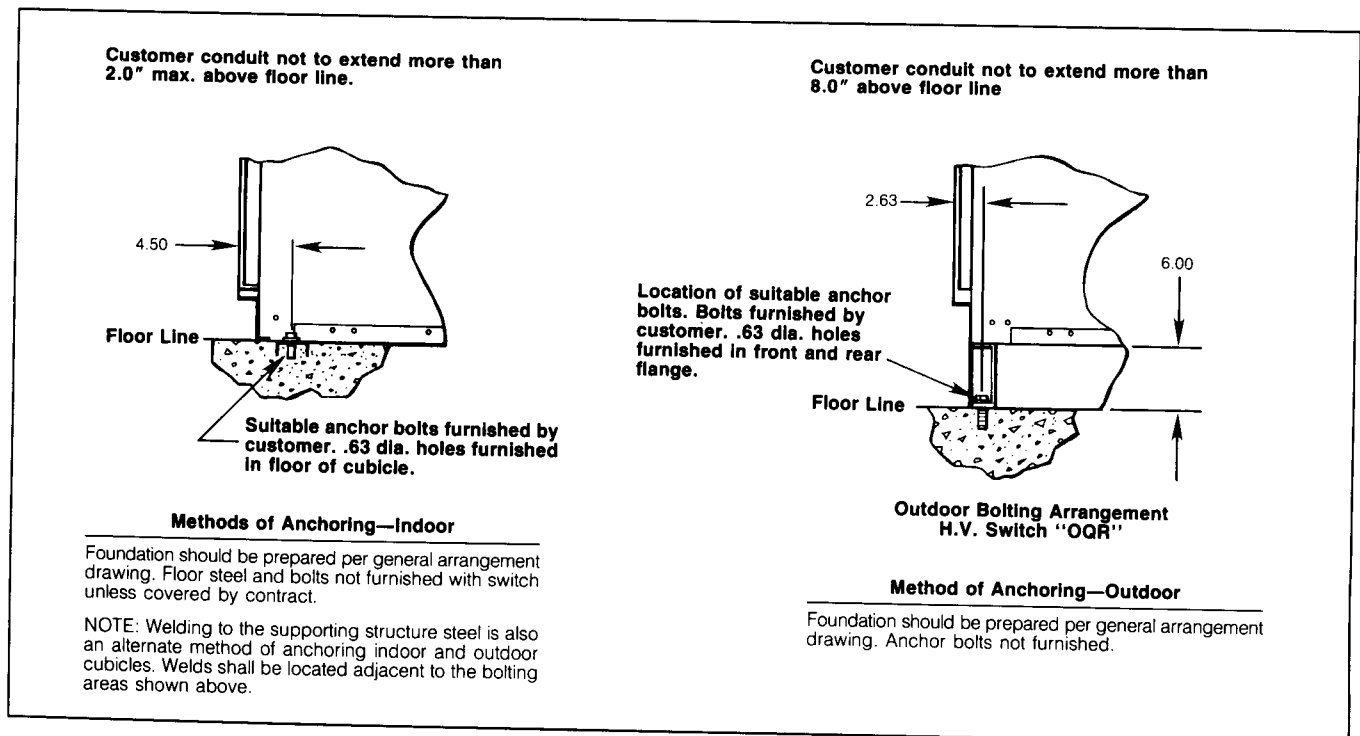

Figure 5. Bolting Arrangements
1. Remove .38-16 in. hardware from bolt holes shown in **Figure 5**; Note that this hardware is hex head and all other hardware holding side plates in place is flat head type. Save all hardware except for hex nut.